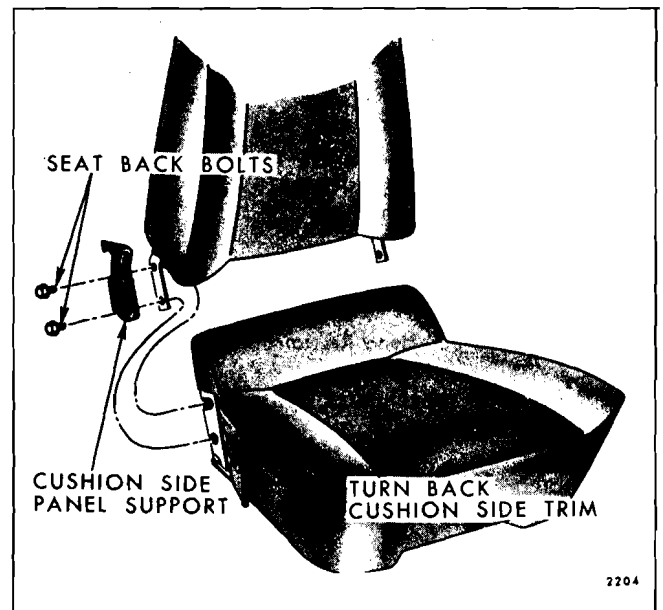

Fig. 15-55—Bucket Seat Back Removal (Without Reclining Seat Back) - All Except Corvair
3. With seat side panels removed, remove hog rings securing seat cushion trim at rear of seat and along bottom of seat and turn back trim sufficiently to expose seat back hinge-to-seat cushion frame attaching bolts (Fig. 15-55).
4. Remove seat back hinge-to-seat cushion frame attaching bolts (Fig. 15-55) from both sides of seat and remove seat back assembly from seat cushion.